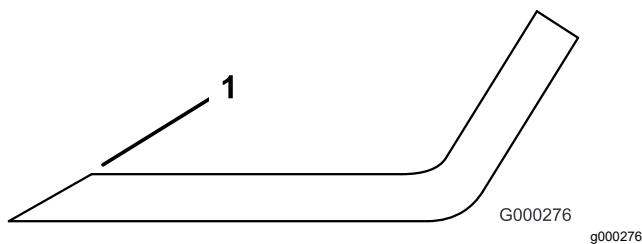

Figure 112
4. Sharpen the cutting edges if they are dull or nicked (Figure 112).